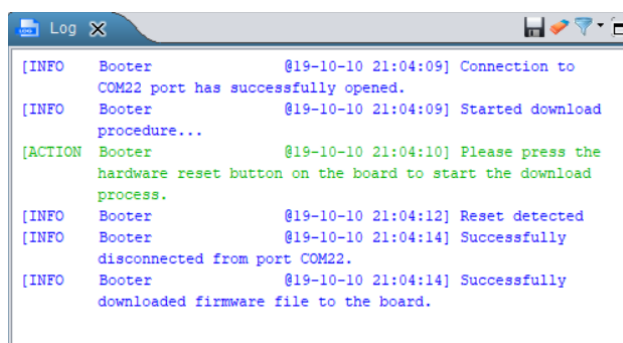

Figure 9: 1-wire UART booter logs
- Check the logs to confirm the firmware download as shown in Figure 9 and now the device will boot from 1-wire UART.